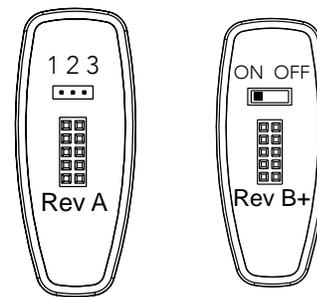

Figure 44. Bluetooth Switch
3. Move the jumper or switch to the ON position. (Left two pins on three pin version or to the left on slide switch, Figure 44)